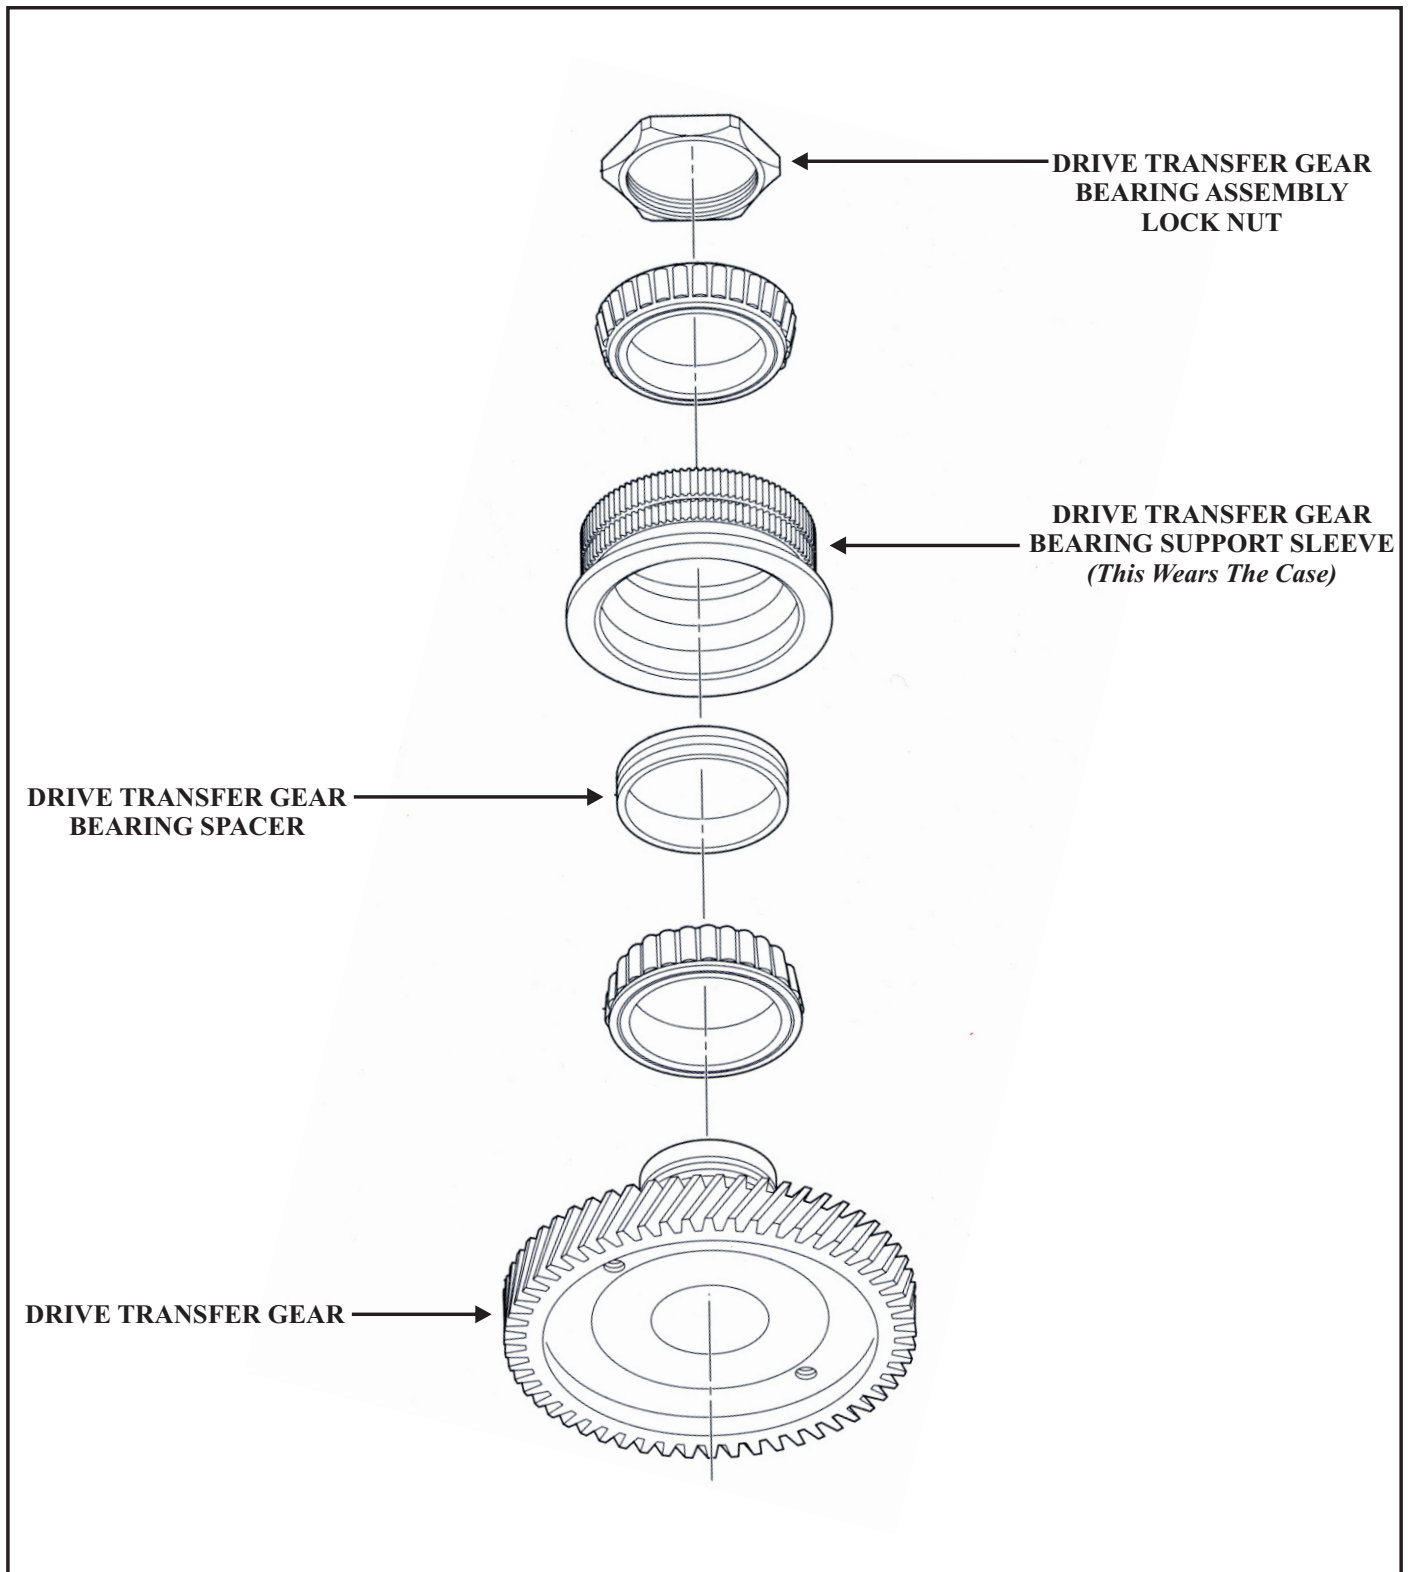

Figure 1
**CAUSE:** There can be two causes for the above mentioned condition, one cause could be a loss of lube pressure due to main or secondary regulator valve wear. The second cause can be attributed to opposing forces between the Drive Transfer Gear and the Driven Transfer Gear. These opposing forces cause the drive transfer gear bearing support sleeve to wear the case, See Figure 1. As the side loading continues, excessive clearance is created between the bearing support and the case causing excessive lateral movement. This will spin the two bushings in the rear carrier which are poorly supported to begin with as well as the failure of various other bushings.